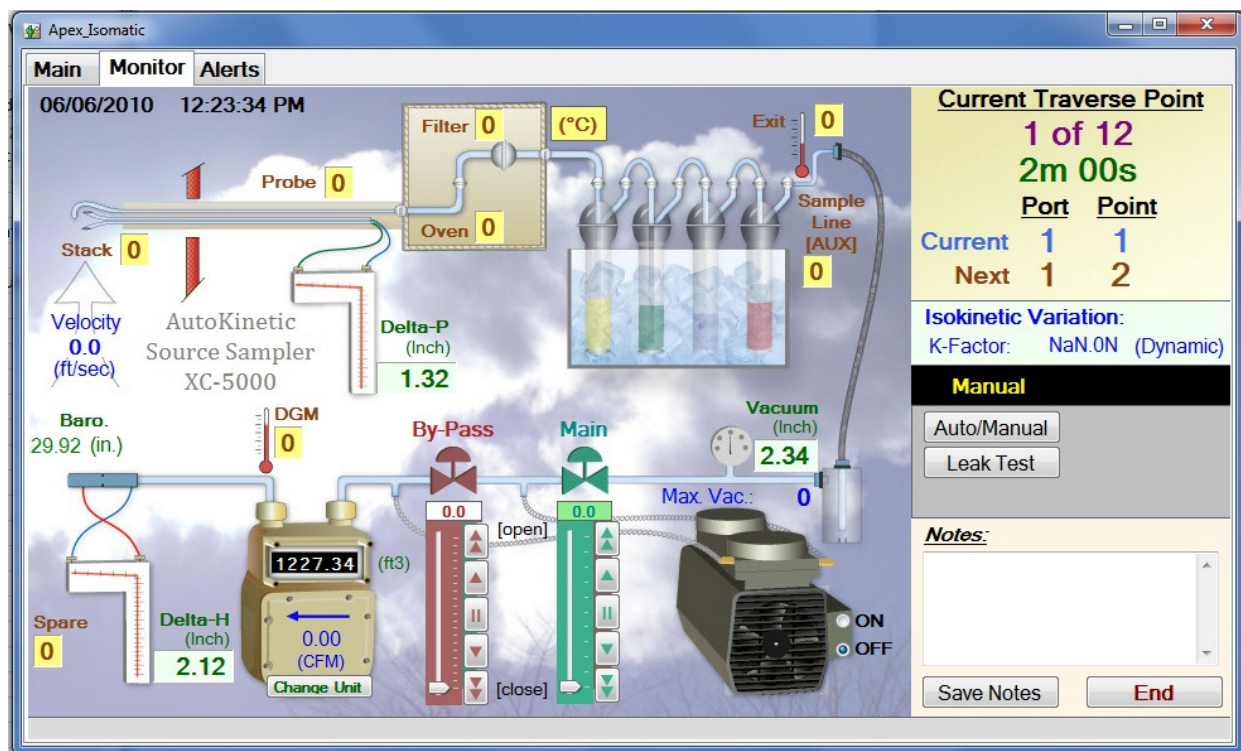

Figure 4 - "Monitor" Window
- The PUMP POWER is activated via the PUMP POWER switch on the Console’s front panel and then controlled from the “Monitor” window in the XC-5000 software’s User Interface. First, plug the pump power cord into the Source Sampler Console receptacle. Next, turn on the PUMP POWER switch on the Console’s front panel. Last, click the Monitor tab in the XC-5000 User Interface and then the “On” radio button on the Pump image. Figure 4 - "Monitor" Window, below, shows the “Monitor” window.